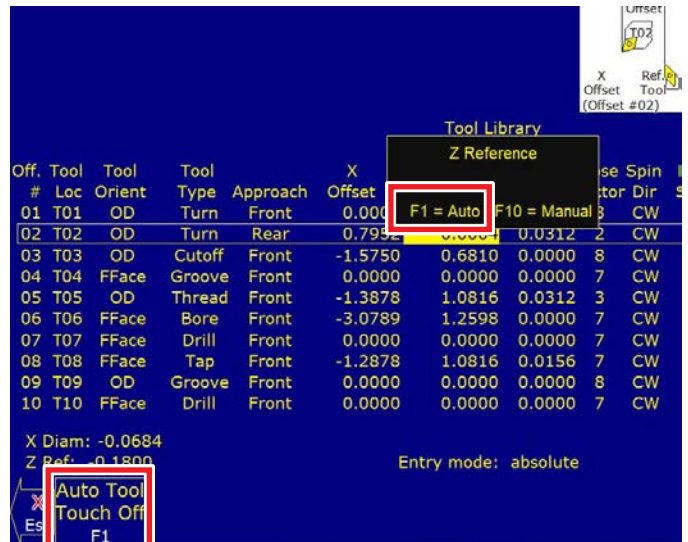

FIGURE 45
C. Click on Z Ref Auto F1. Then click on Cycle Start (see Figure 45).